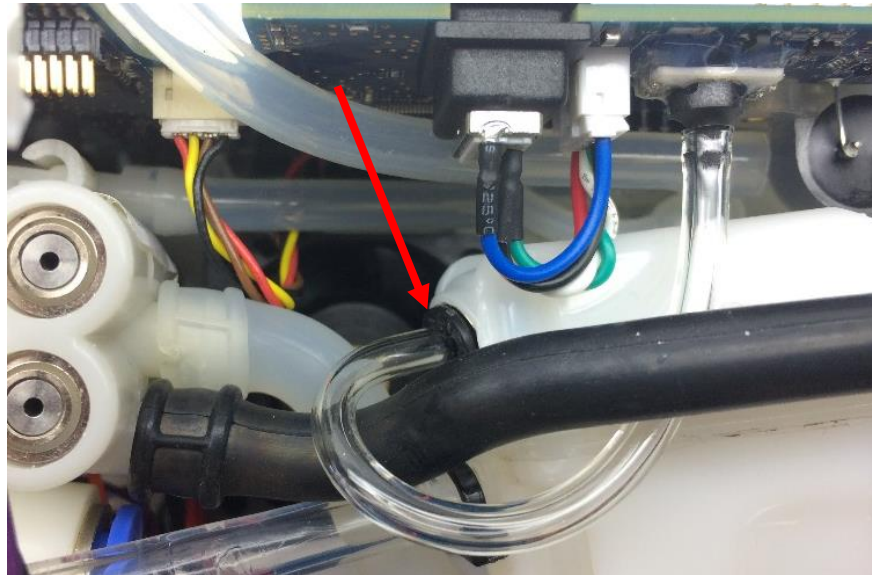
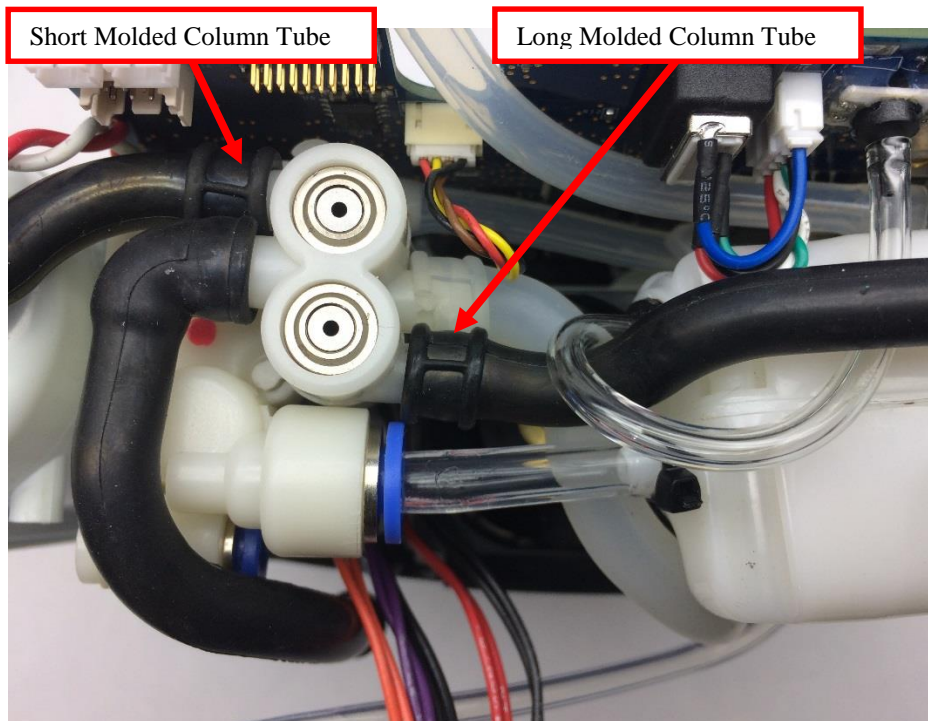

Figure 8: Accumulator Sensor Tubing
Figure 9: Molded Column Tubes on Feed Waste Manifold
7. If replacing the Long Molded Column Tube, remove the Accumulator Sensor Tube by pushing down on the retaining ring while gently pulling on the tubing. Be careful not to apply any force to the pressure sensor (Figure 8). Then remove the Column Tube from the Feed Waste Manifold using a small flathead screwdriver (Figure 9).
1. Install the tube back onto the Feed Waste Manifold barb with the clocking line directly on top of the barb (Figure 9).
2. Reinstall either the Accumulator Sensor Tube routing it around the long molded column tube and inserting it into the quick-connect fitting on the Accumulator (Figure 8), or the manifold harnesses by reconnecting the Product Manifold Harness, then the Feed Waste Harnesses to the motherboard (Figures 6 and 7).